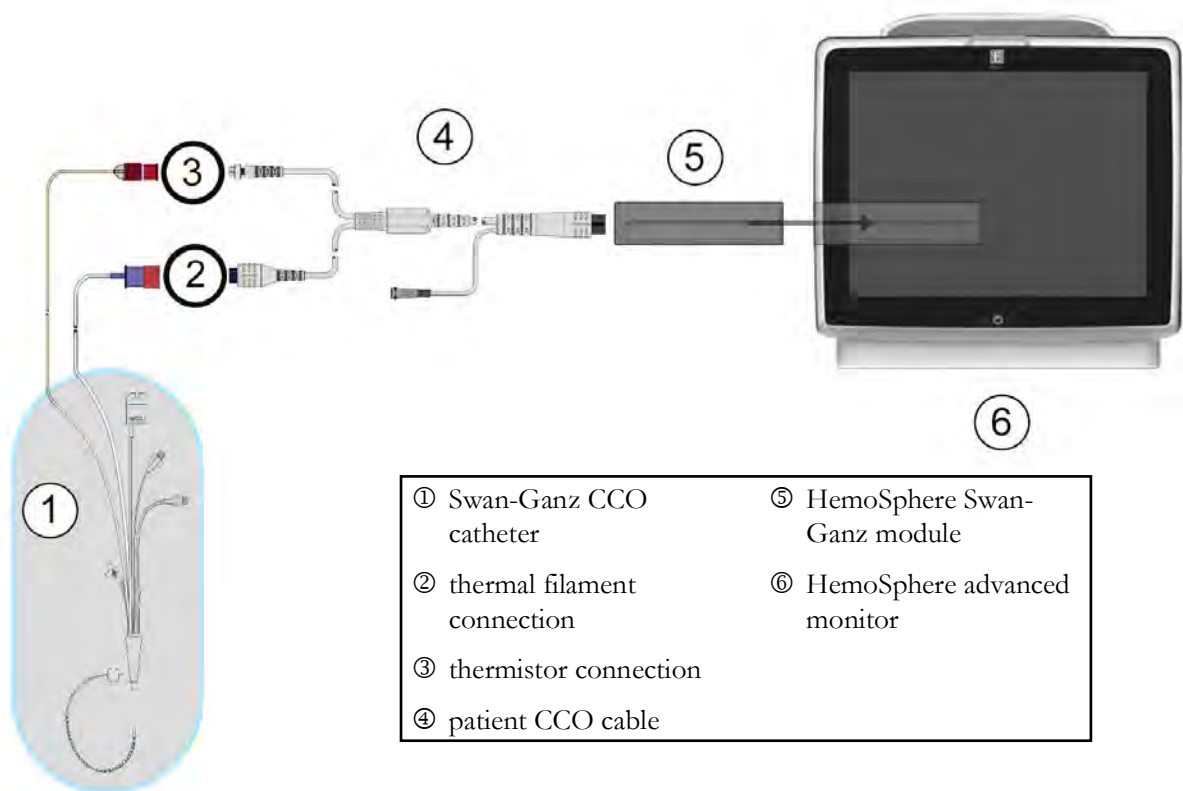

Figure 9-4 CO connection overview
- 2 Attach the catheter end of the patient cable to the thermistor and thermal filament connectors on the Swan-Ganz CCO catheter. These connections are emphasized as numbers ② and ③ in figure 9-4 on page 164.